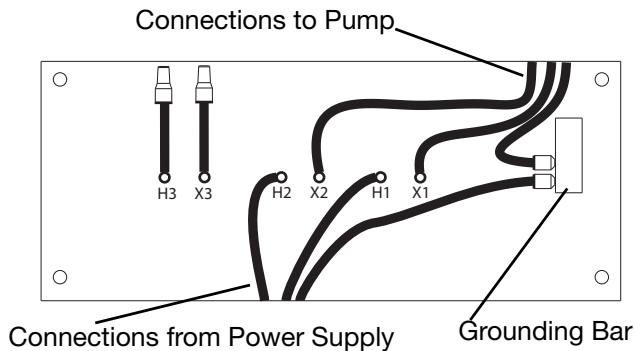

FIG. 9: Transformer Wiring Connections
- Refer to **FIG. 9** on page 12 and connect the wires from the power cord to the wires marked H1 and H2 inside the transformer.
- Connect the power cord ground wire to the grounding bar inside the transformer as shown in **FIG. 9** on page 12.
NOTE: The other wires shown in **FIG. 9** (H3, X3) are connected at the factory and are not required for connecting the transformer to the pump.